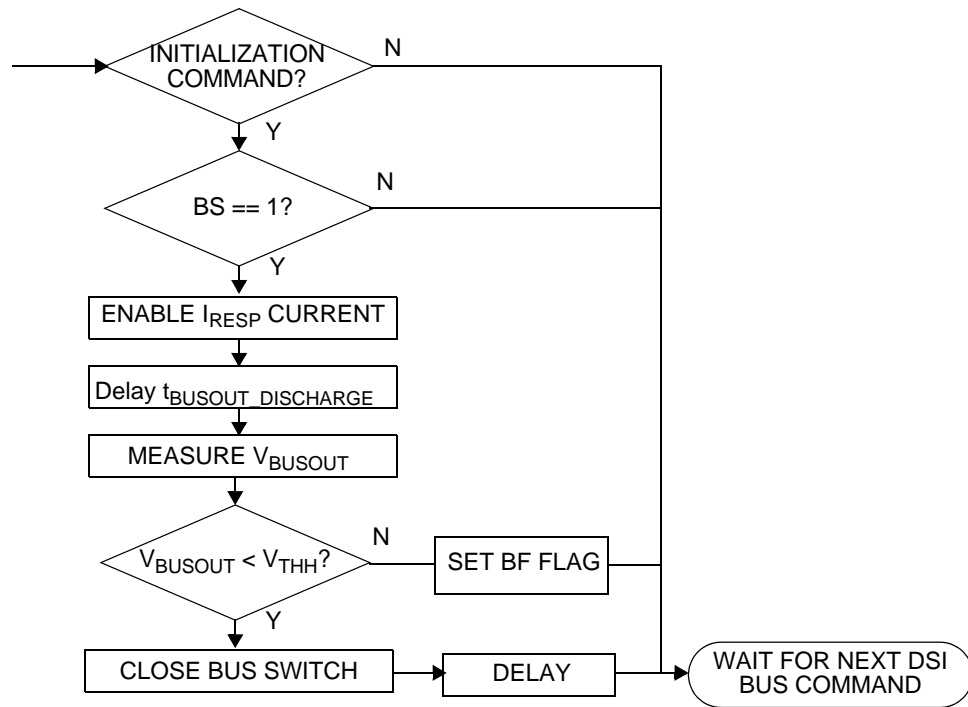

Figure 22. Initialization Sequence
Figure 22 illustrates the sequence of operations performed following negation of internal power-on reset (POR) and execution of a DSI Initialization command. The BUSOUT node is tested for a bus short to high voltage condition, and the bus fault (BF) flag is set if an error condition is detected. If no bus fault condition is detected and the BS bit is set in the Initialization command message, the bus switch will be closed. The device implements a blanking time ($t_{\text{DSI_BLANK_INIT}}$) to allow for the bus voltage to recover following closure of the bus switch.